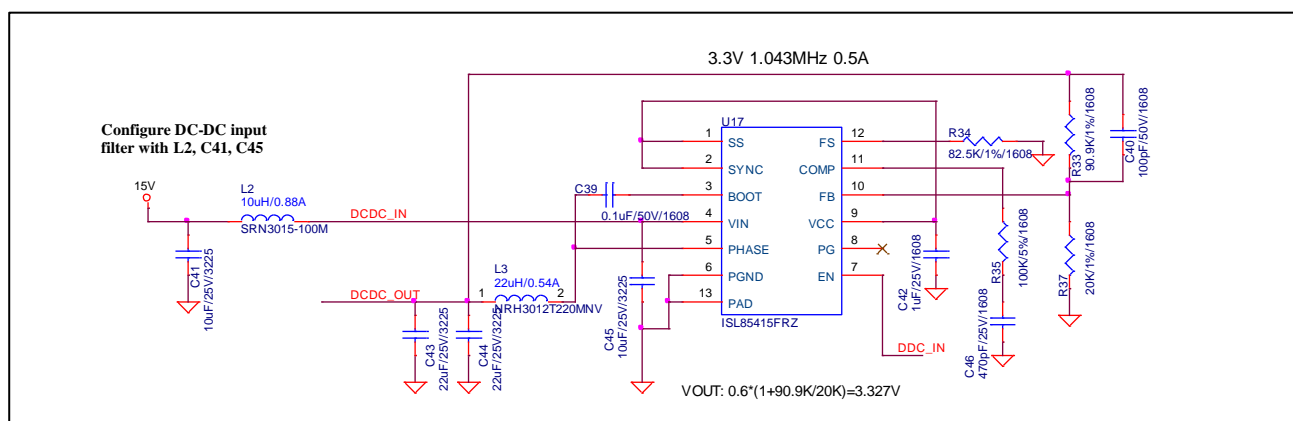

Figure 4-2 Example of DC-DC power supply circuit using ISL85415
- Figure 4-2 shows an example of a DC-DC power supply circuit that generates 3.3V from 15V using ISL85415.